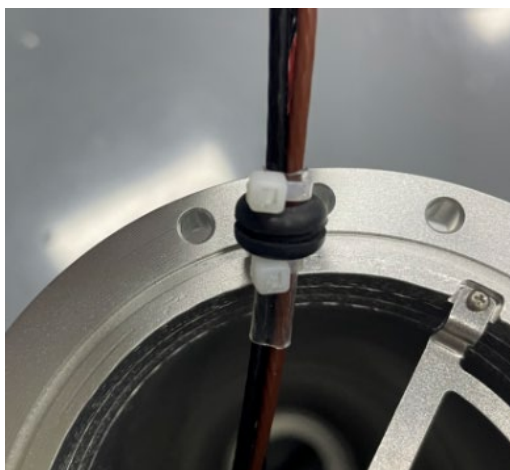

Figure 3-21 Tie the wire
- Put the rubber wire guard ring on the corresponding wire bundle, and tie the cable tie at both ends of the wire guard ring, as shown in Figure 3-21: